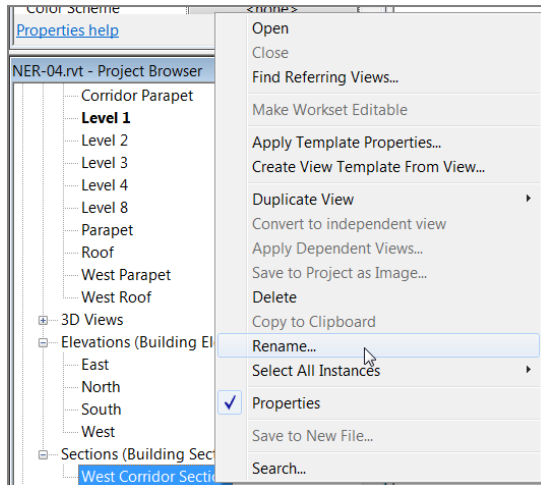

FIGURE 3.39: You can rename the view by right-clicking in the Project Browser.
2. Choose Rename from the context menu (see Figure 3.39).